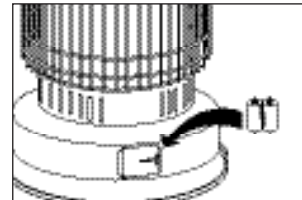

Fig.8
**F) INSTALLING BATTERIES. (Fig. 8)**